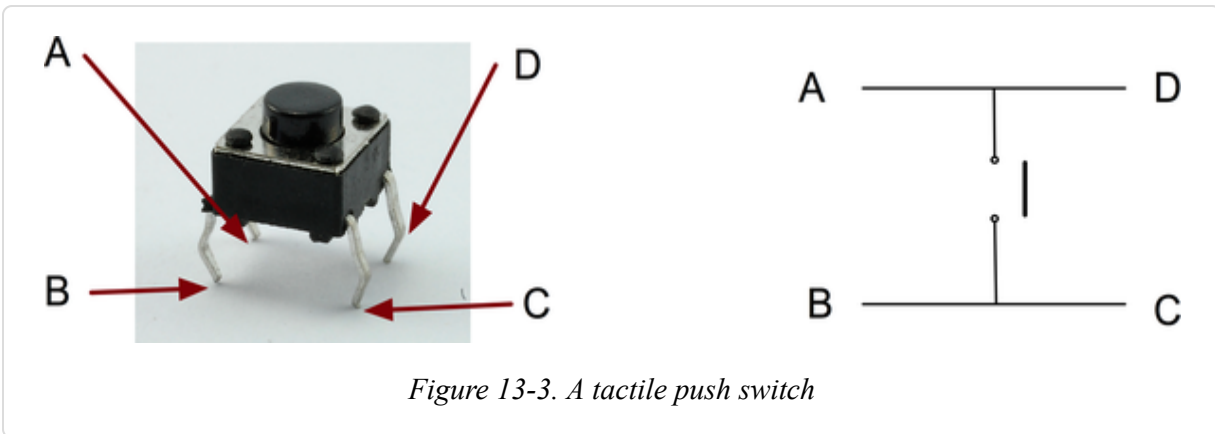

Figure 13-3. A tactile push switch
**Figure 13-3** shows how these connections are arranged.